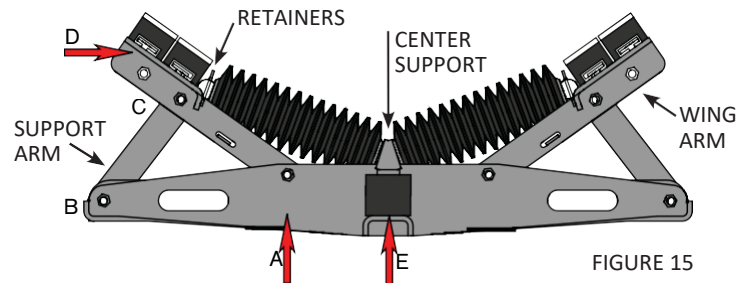

FIGURE 15
1. Remove bolts holding lift roll bracket to the Trougher Impact System Wing Arm. These bolts are near C & D in figure 15.